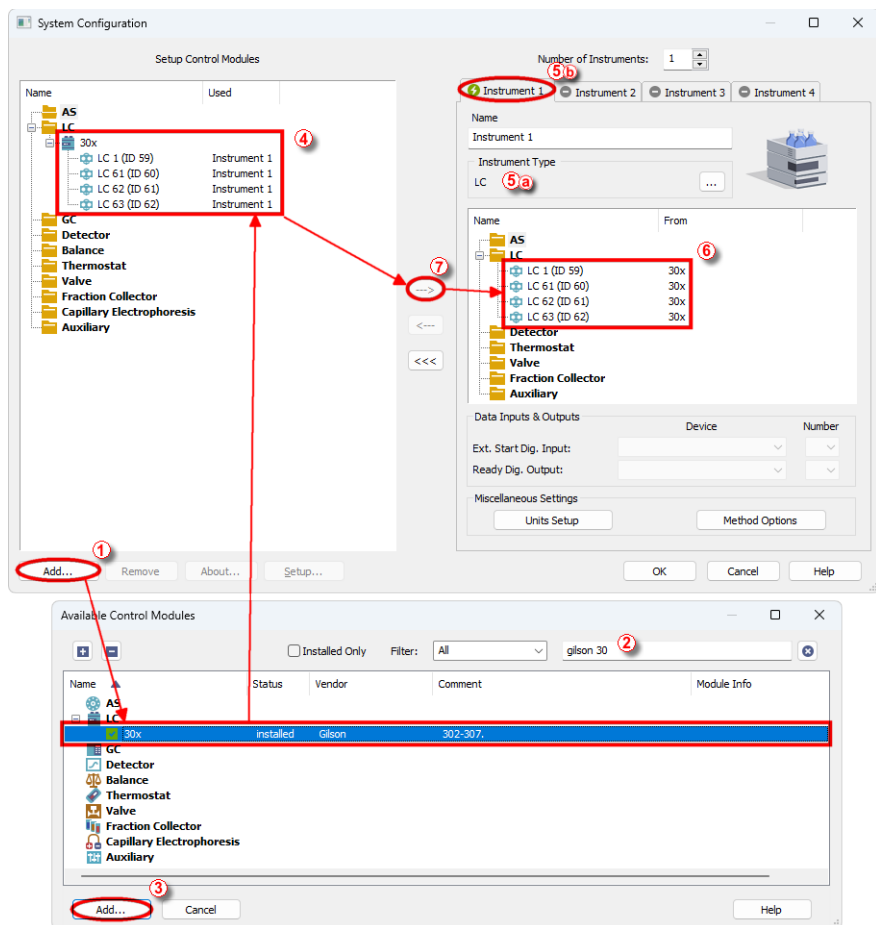

Fig. 4: How to add Gilson 30X
- Press the *Add* button ① (see Fig. 4 on pg. 5.) to invoke the *Available Control Modules* dialog.
- You can specify the searching filter ② to simplify the finding of the driver.
- Select the **30x** pump and press the *Add* ③ button.